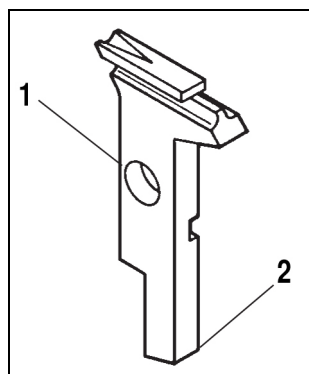

Fig. 6: Codification mandrel
Mandrels and mandrel inserts (1) are color coded as shown in Fig. 6.